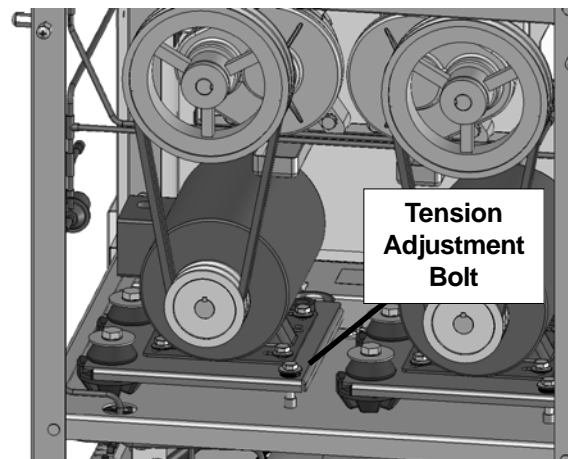

Figure 6-3 Motor Mounting
5. Loosen the belt tension adjustment bolt and remove the belt. (Refer to Figure 6-3)